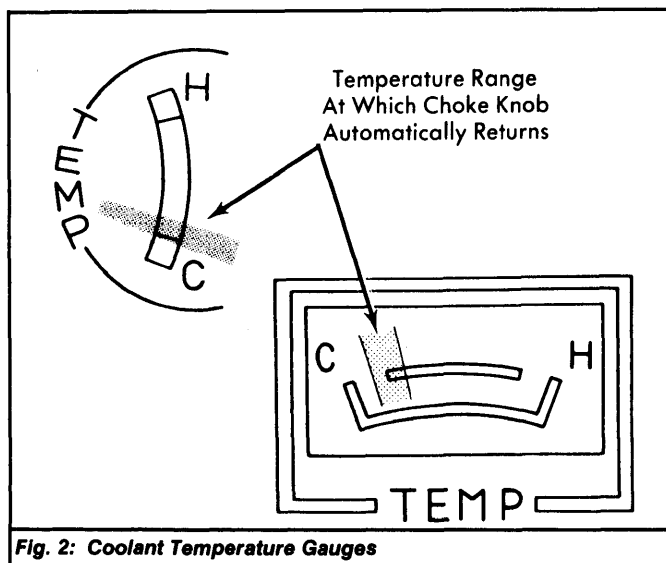

Fig. 2: Coolant Temperature Gauges
2) Set engine speed at 2000 RPM with choke knob. When temperature reaches range indicated in gauge, choke knob should pull back in automatically. See Fig. 2.